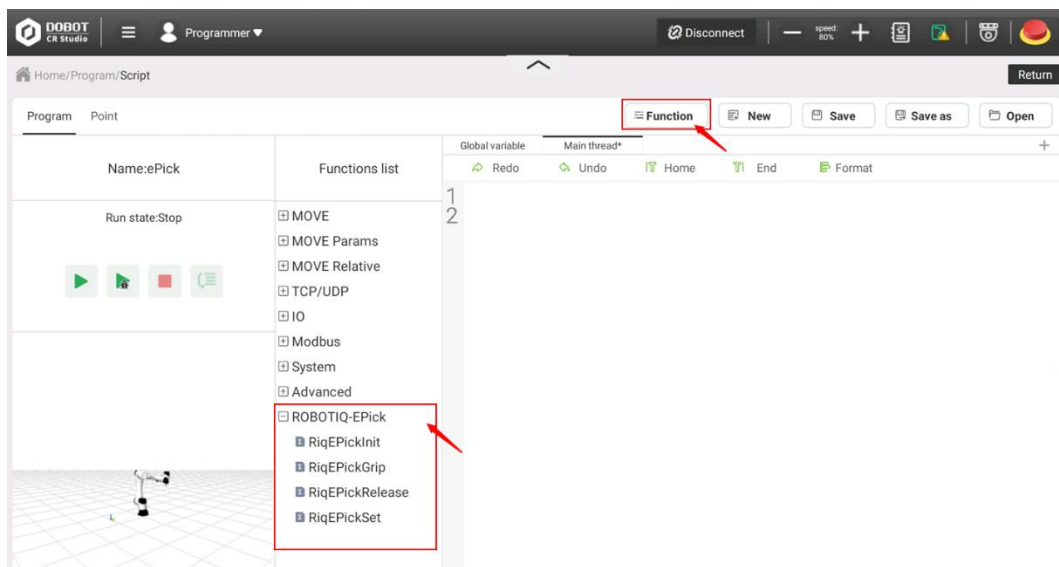

Figure 3.12 Select functions to operate the gripper
Step 1 Enter the **Script** page, and click **Function**, as shown in Figure 3.12.